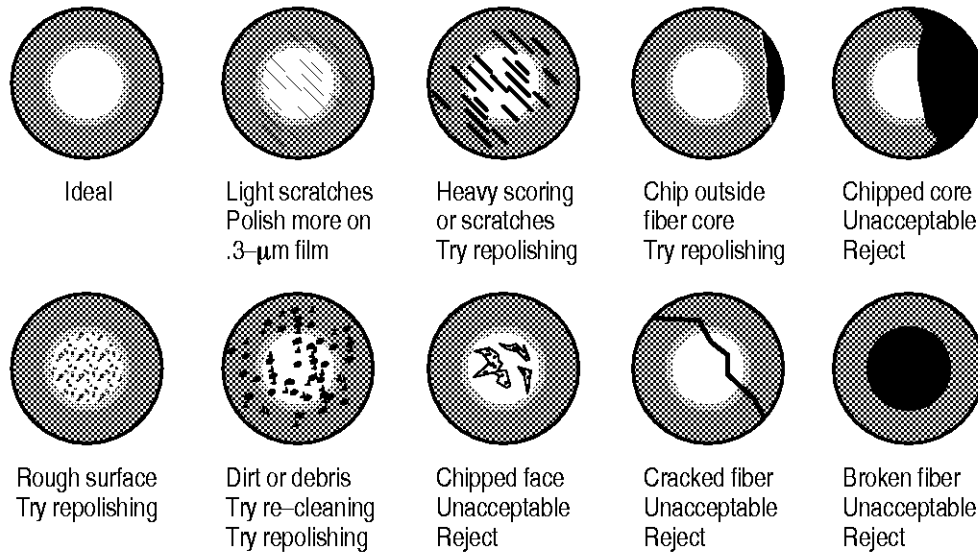

Figure 18
8. INSPECTION (Figure 18)**DANGER**
recommended for optimum performance. Refer to Figure 18. Other relevant criteria described in Section 8, INSPECTION, prevail.